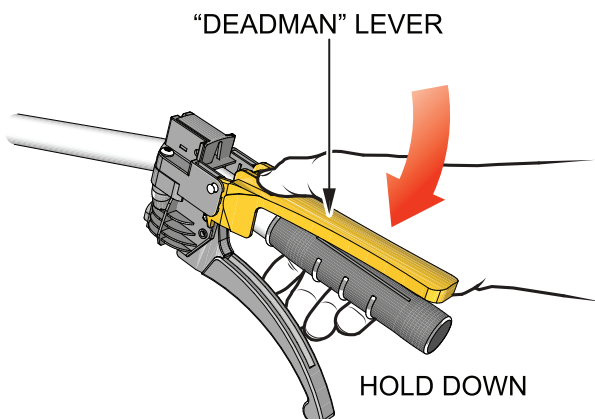

Figure 23. Deadman Lever (Electric)
2. With the electric motor running, fully squeeze the **YELLOW** deadman lever (Figure 23) and hold down. When the lever is held down, a signal is sent via a microswitch to the motor controller (J1-3) to release the brake.